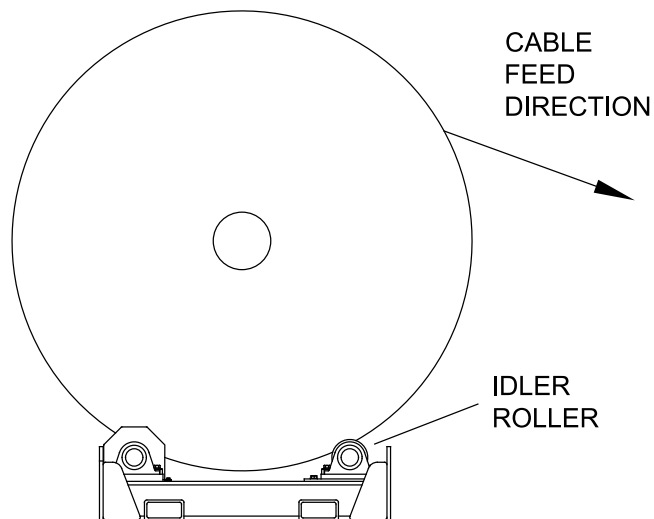

Figure 6b
3. Load the cable reel onto the cable reel roller such that the cable feeds from the top of the reel and over the idler roller (see Figure 6b).